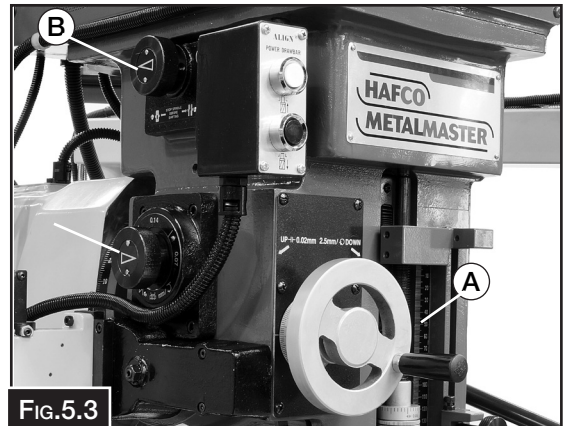

FIG.5.3
- A. **Quill Fine Feed Hand Wheel:** The hand wheel is used to fine feed the quill Down or Up manually. Each graduation is 0.02mm(Fig 5.3)
NOTE: The spindle must be stopped before the lever is engaged. (Fig 5.3)
- C. **Feed Selection Lever.** Selects the rate of quill feed. Selects one of the three feed rates available, 0.035, 0.07, 0.14mm(Fig 5.3)